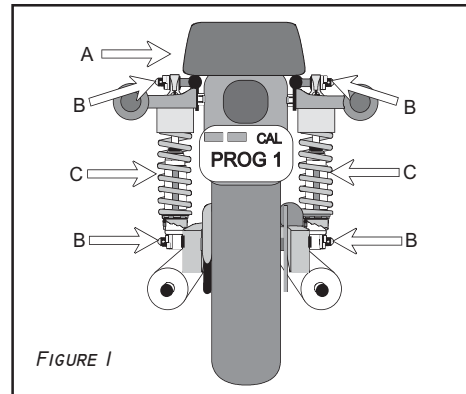

FIGURE 1
3. Install one 12 series shock (without springs) and check clearance (#A in Fig. 1). Raise wheel into fender well until shock bottoms. There should be a minimum of 1" of clearance between the tire and fender.
Now check clearances (B & C) in figure 1.